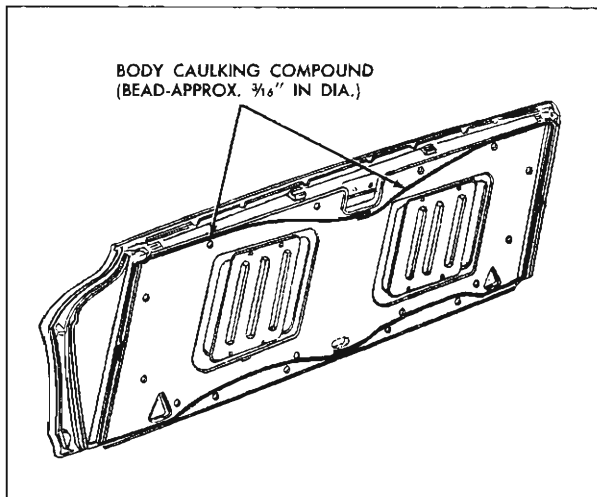

Fig. 5-20 Tail Gate Inner Panel
3. Apply a bead of body caulking compound (approximately  $\frac{3}{16}$ " diameter) to tail gate inner panel (Fig. 5-20).